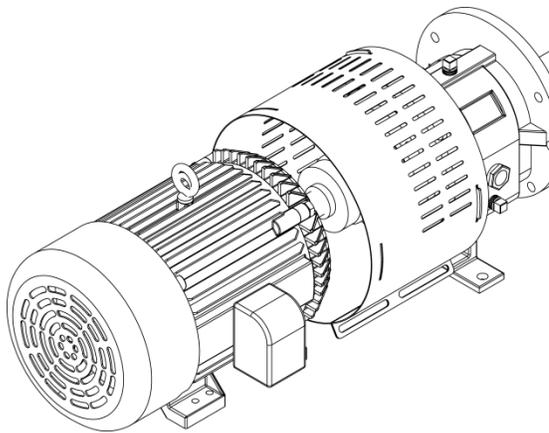
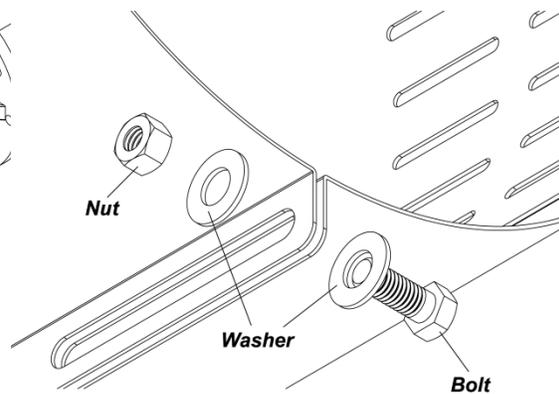

Figure 12-6: Secure around Pump End Plate
Figure 12-7: Bolt first shroud in place
3. After placing the coupling guard half (pump end) around the pump end plate, secure it with a bolt, nut and two (2) washers through the round hole in the front end of the guard half as shown in Figure 12-6. Tighten securely (See Figure 12-7).